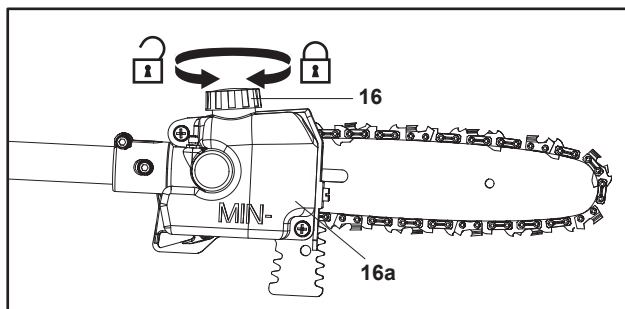

Fig. 16
1. Place the product on a stable, level surface with the oil tank cap (16) facing upward. We recommend laying a non-flammable sheet under the product.
2. Unscrew and remove the oil tank cap (16) (Fig. 16).